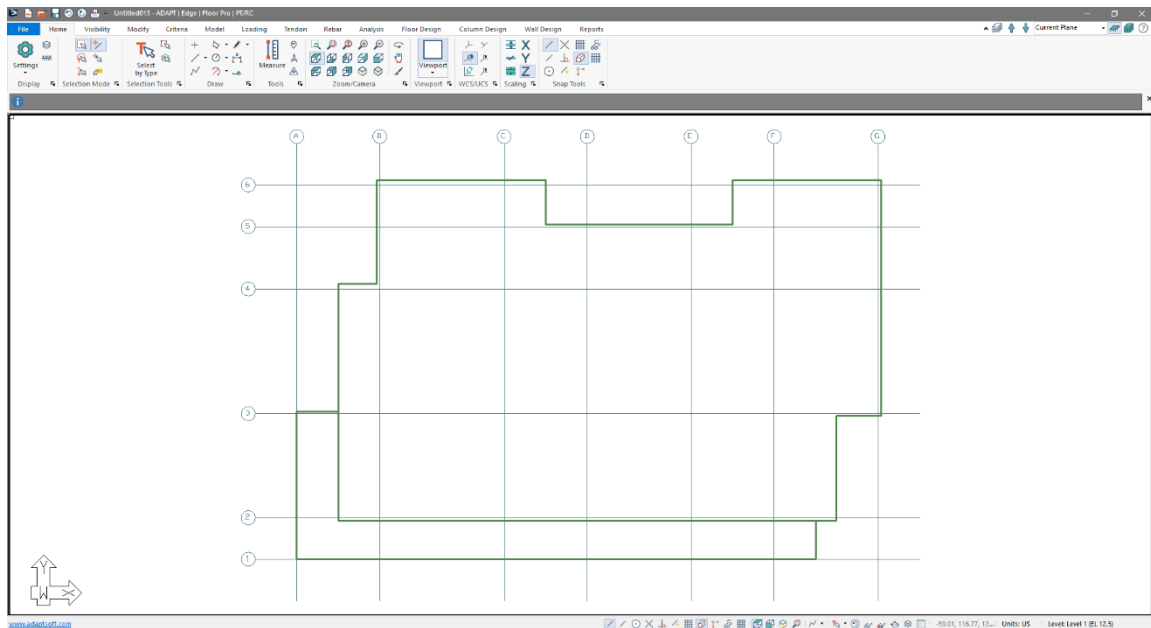

Figure 2-28
- Click on the *Zoom Extents*  icon. The user should see the slab modeled as shown in **FIGURE 2-28**.